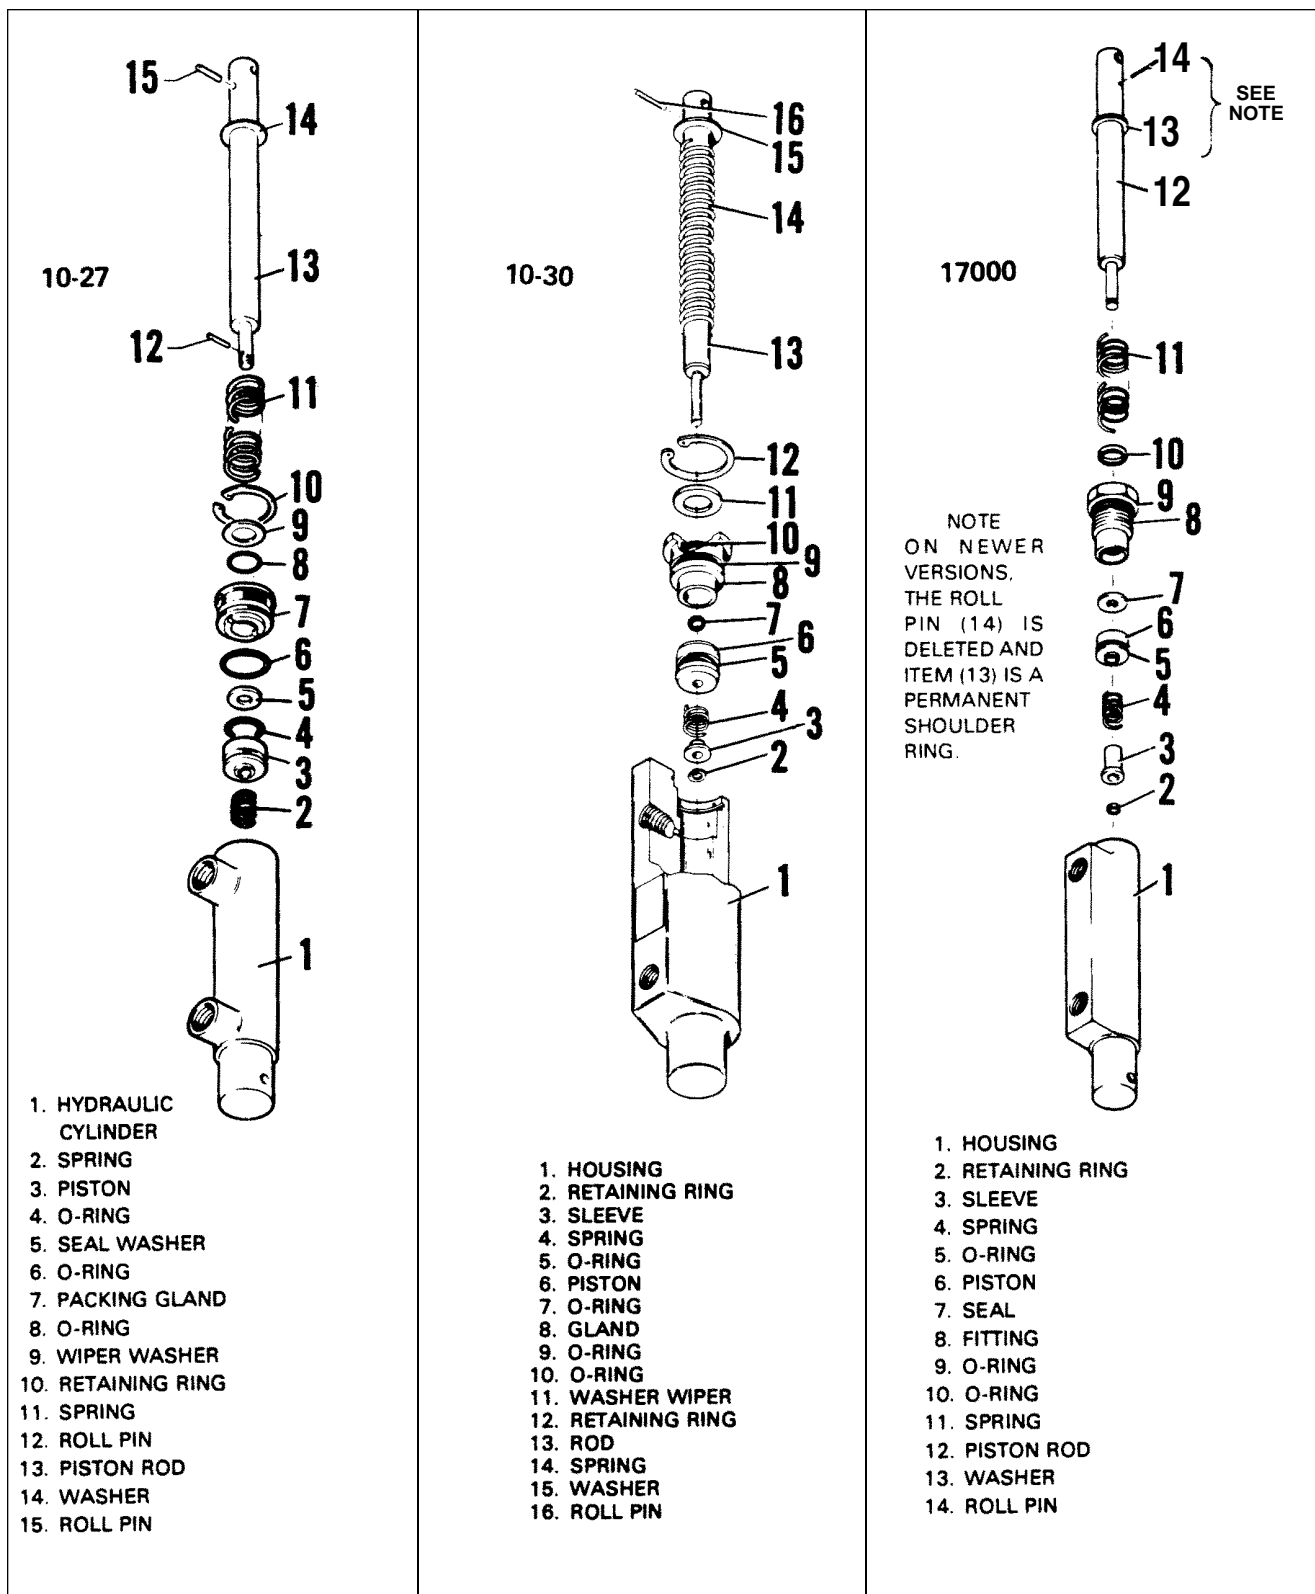

Figure 7-14. 10-27, 10-30 and 17000 Toe Brake Brake Cylinders
a. Cleveland cylinder number 10-27. (Refer to Figure 7-14.)
2. To disassemble the cylinder, first remove the piston rod assembly by removing the retaining ring (10) from the annular slot in the cylinder housing (1). Draw the piston rod assembly from the cylinder.
3. The piston rod assembly may be disassembled by first removing the roll pin (12) and then the piston assembly (3), seal (5), packing gland (7).
- b. Cleveland cylinder number 10-30. (Refer to Figure 7-14.)
- 2. To disassemble the cylinder, first remove the piston rod assembly by removing the retaining ring from the annular slot in the cylinder housing (1). Draw the piston rod assembly from the cylinder.
- 3. The piston rod assembly may be disassembled by first removing the retaining ring (2), sleeve (3), spring (4), and then the piston assembly, O-ring (5), and gland (8), and, if desired, the return spring (14).
- c. Gar-Kenyon cylinder number 17000. (Refer to Figure 7-14.)
- 2. To disassemble the cylinder, first remove the piston rod assembly by unscrewing the fitting (8) from the cylinder.
- 3. The piston rod assembly may be disassembled by first removing the retaining ring (2) securing the sleeve (3) and then removing the spring (4), piston (6), seal (7), fitting (8), and, if desired, the large return spring (11).
7-43. ASSEMBLY OF TOE BRAKE CYLINDER. (Refer to Figure 7-14.)
- a. Cleveland cylinder number 10-27. (Refer to Figure 7-14.)
- 1. Install new O-rings on the inside and outside of the packing gland (7) and on the outside of the piston (3).
- 2. To assemble the piston rod assembly, install on the rod (13), in order, the roll pin (15), washer (14), spring (11), washer (9), packing gland (7), seal (5), piston assembly (3), spring (2), and roll pin (12).
- 3. Insert the piston rod assembly in the cylinder (1) and secure with the retaining ring (10).
- b. Cleveland cylinder 10-30. (Refer to Figure 7-14.)
- 1. Install new O-rings on the inside and outside of the packing gland (8) and on the outside of the piston (6).
- 2. To assemble the piston rod assembly, install on the rod (13), in order, the roll pin (16), washer (15), spring (14), washer (11), packing gland (8) with O-rings, seal (5), piston assembly (6) with O-ring, spring (4), sleeve (3) and retaining ring (2).
- 3. Insert the piston rod assembly in the cylinder (1) and secure with the retaining ring (12).
1. Install new O-rings on the inside and outside of the fitting (8) and on the outside of the piston (6).
2. To assemble the piston rod assembly, install on the rod (12), in order the roll pin (14), return spring retainer washer (13), return spring (11) fitting (8) with O-rings, seal (7), piston (6) with O-ring, spring (4) and sleeve (3). Secure these pieces with the retaining ring (2) on the end of the rod.
3. Insert the piston rod assembly in the cylinder (1) and secure fitting (8).